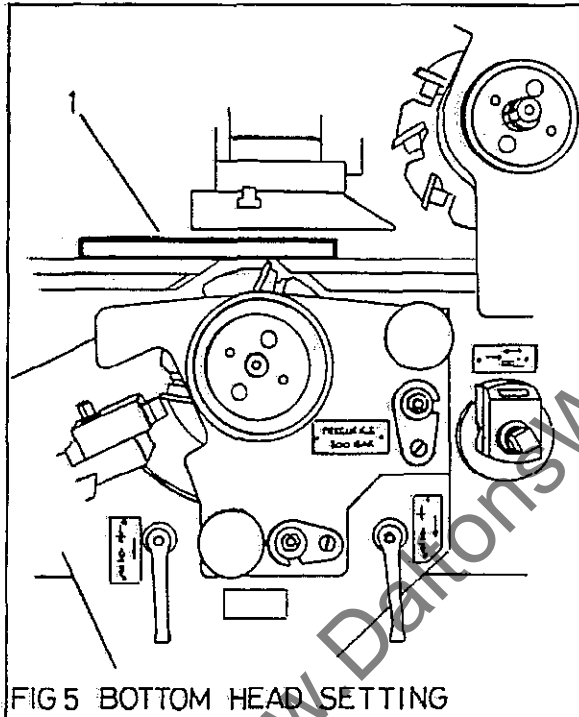
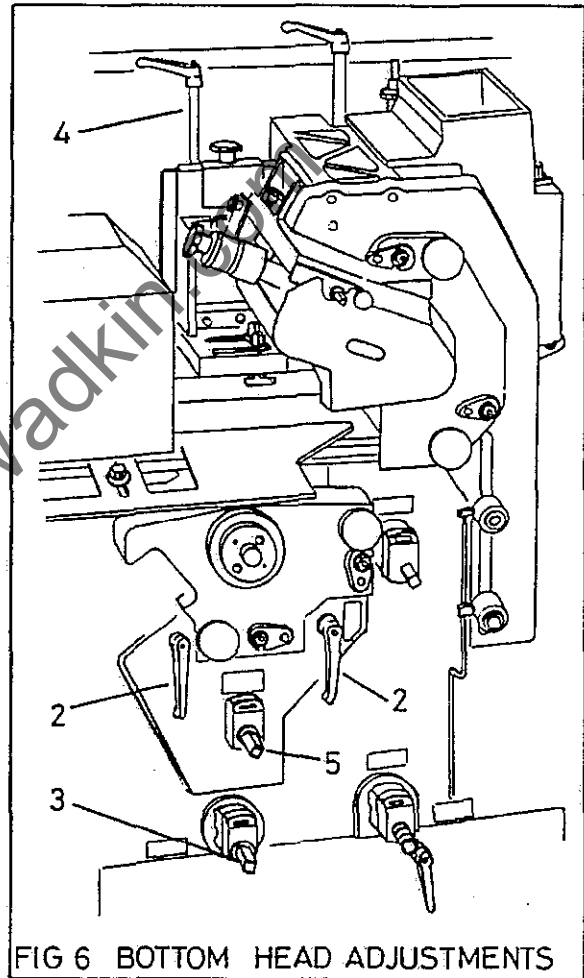

FIG 5 BOTTOM HEAD SETTING
FIG 6 BOTTOM HEAD ADJUSTMENTS
- 4) Slacken off the two locknuts (3).
- 6) Tighten the locknuts (3).
- 7) A stop screw (4) provides for small adjustment to align all the chipbreaker nose pieces.
- 8) Slacken off the two locknuts (5) at the rear of the top head and turn the adjusting screw (6) until the chipbreaker nose is approximately 20mm from the cutter knives.
- 9) Fasten rear locknuts (5).
**Bottom Head Vertical and Horizontal Adjustment (Fig 5, Fig 6)**